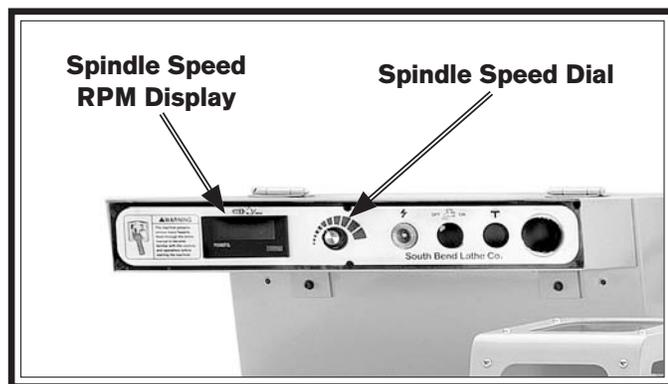

Figure 67. EVS spindle speed controls.
4. Turn the spindle speed dial shown in **Figure 67** all the way counterclockwise to set it to the minimum speed.